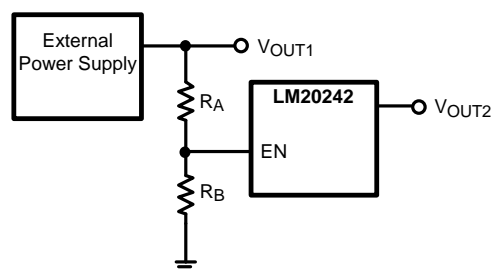

Figure 13. Sequencing LM20242 with Precision Enable
The LM20242 has an internal under-voltage lockout protection circuit that keeps the device from switching until the input voltage reaches 3.9V (typical). The UVLO threshold has 200 mV of hysteresis that keeps the device from responding to power-on glitches during start up. If desired the turn-on point of the supply can be changed by using the precision enable pin and a resistor divider network connected to V_{IN} as shown in Figure 13 in the design guide.
The precision enable (EN) and power good (PGOOD) pins of the LM20242 can be used to address many sequencing requirements. The turn-on of the LM20242 can be controlled with the precision enable pin by using two external resistors as shown in Figure 13 .